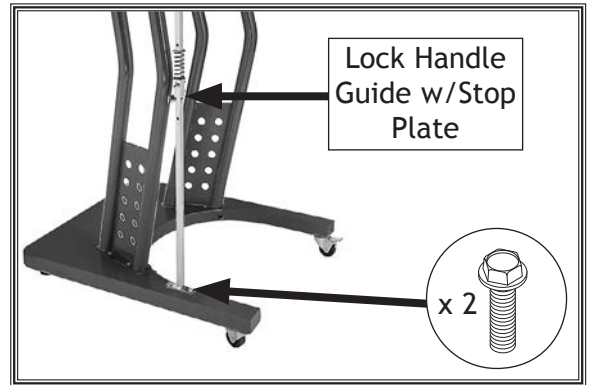

Figure 12. Lock handle guide with stop plate attached to base.
- Attach lock handle guide with stop plate to left side of base stand, and finger-tighten with (2) $\frac{5}{16}$ "-18 x $\frac{1}{2}$ " flange bolts (see **Figure 12**).